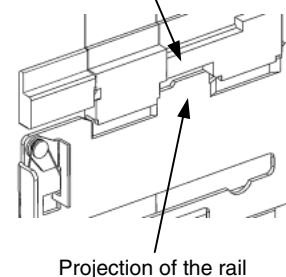

Fig. 11-5
- ② Place the breaker on the extension rails, using a lifter or ropes. Mount the concave of the breaker in the rail protruding portion. (Fig. 11-5)